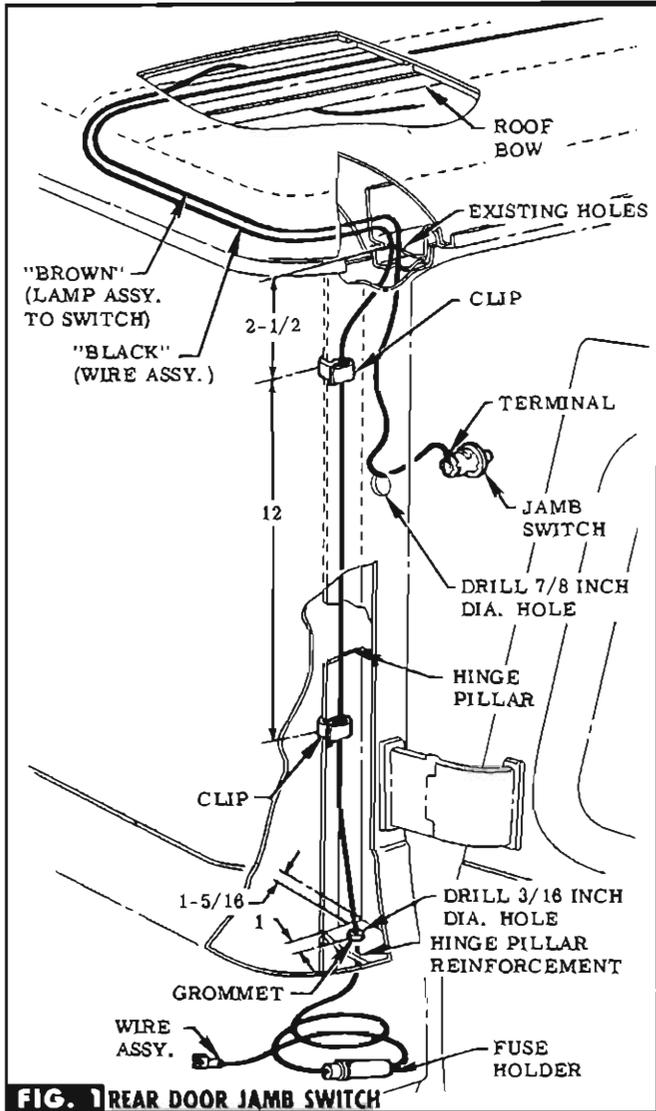

FIG. 1 REAR DOOR JAMB SWITCH
STEP 1 LOCATE, CENTER PUNCH & DRILL HOLE IN L. H. REAR DOOR HINGE PILLAR REINFORCEMENT. SEE FIG. 1. (REMOVE L. H. REAR TRIM PANEL FIRST, IF VEHICLE IS MODEL 1206).
STEP 2 PUSH BARE END OF WIRE ASSY. THRU GROMMET & SLIDE GROMMET ALONG WIRE TO A POINT APPROXIMATELY (12) INCHES FROM FUSE HOLDER. THREAD BARE END OF WIRE THRU DRILLED HOLE, FROM UNDER REINFORCEMENT, THEN CLIP WIRE TO PILLAR & ROUTE TO FRONT OF REAR ROOF BOW. SEE FIG. 1.